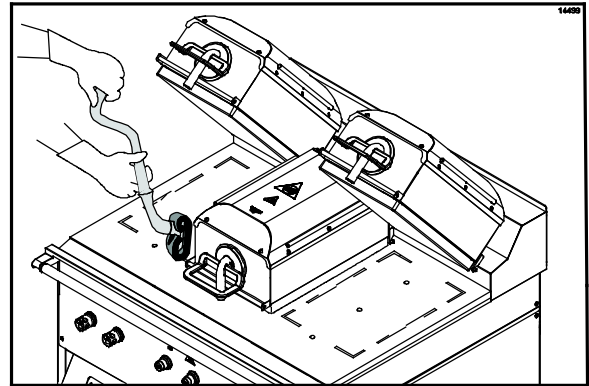

Figure 94
20. Apply the grill cleaner to both sides of the center platen. (See Figure 94.)